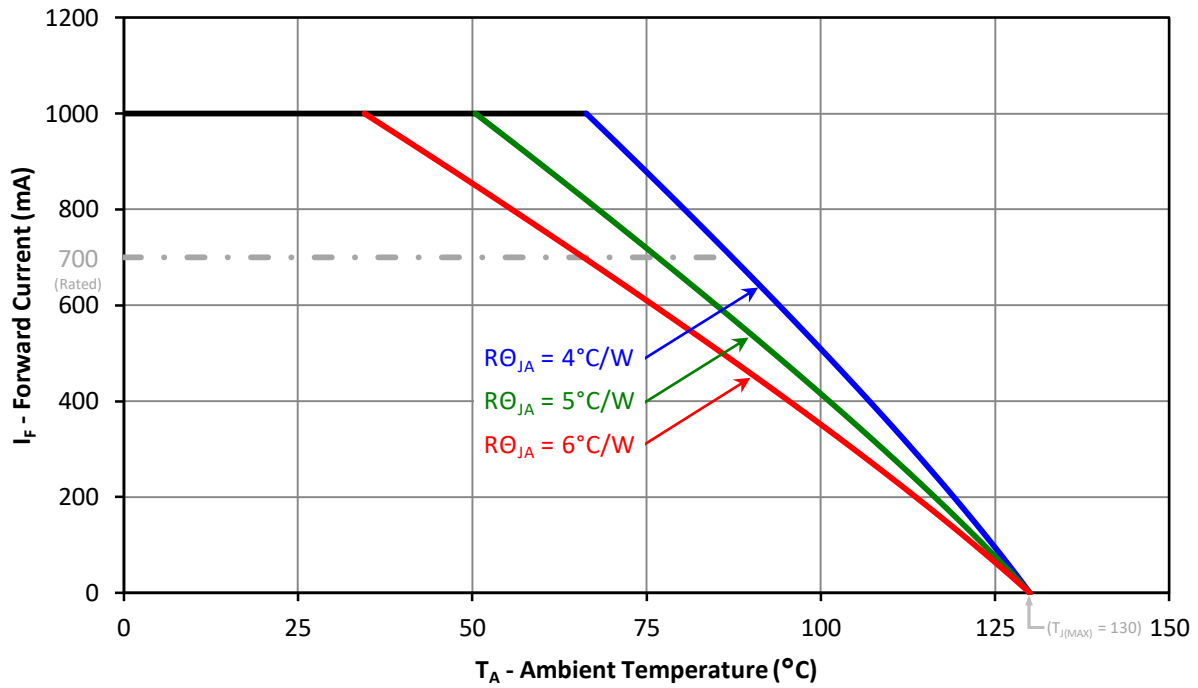

Figure 11: Maximum forward current vs. ambient temperature based on  $T_{j(\text{MAX})} = 130^\circ\text{C}$
- Maximum DC forward current is determined by the overall thermal resistance and ambient temperature. Follow the curves in Figure 11 for current derating.